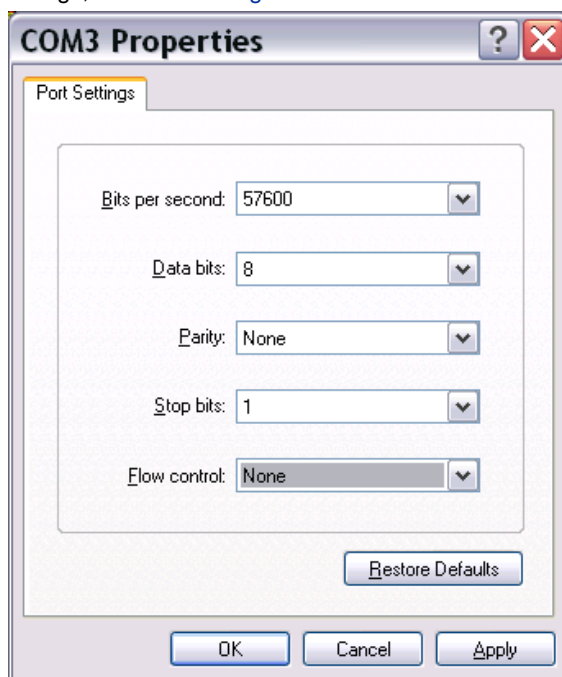

Figure 45 Port Settings
4. Give the port settings, as shown in Figure 45 and click **OK**.